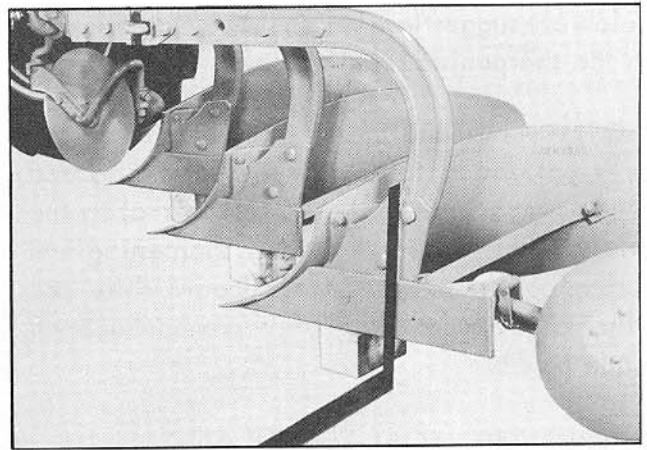

Fig. 15 Squaring up Plow
2. Disconnect the top link from the tractor and with the aid of a carpenter's square, level the plow with the leveling crank until the face of the rear bottom landside is perpendicular with the level surface, see Fig. 15.